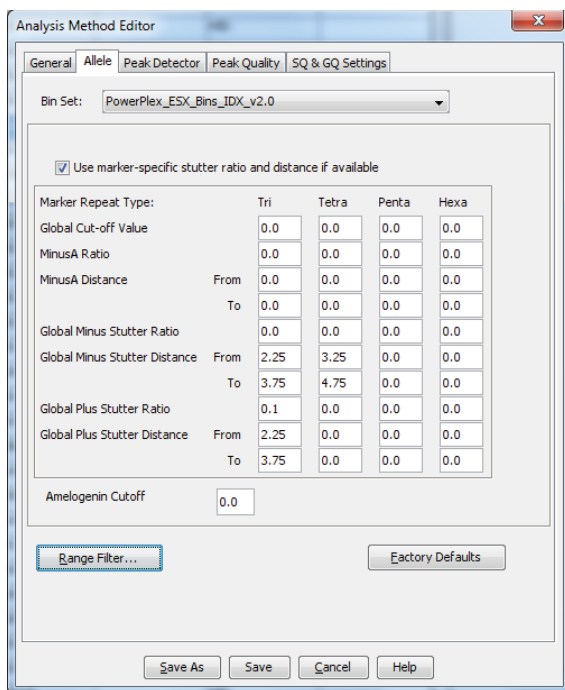

Figure 13. The GeneMapper® ID-X Allele tab.
6. Select the Allele tab (Figure 13).
9. We recommend the values shown in Figure 13 for proper filtering of stutter peaks when using the PowerPlex® ESX 17 System. You may need to optimize these settings. In-house validation should be performed.